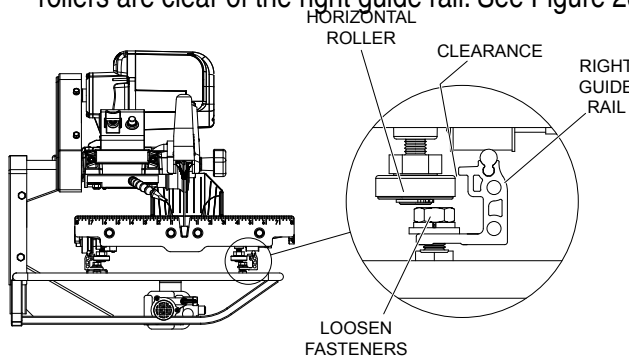

Figure 23. Roller Clearance
1. Use the universal wrench to loosen (but not remove) the fasteners from either end of both guide rails. Move each rail away from the other, so that the horizontal rollers are clear of the right guide rail. See Figure 23.